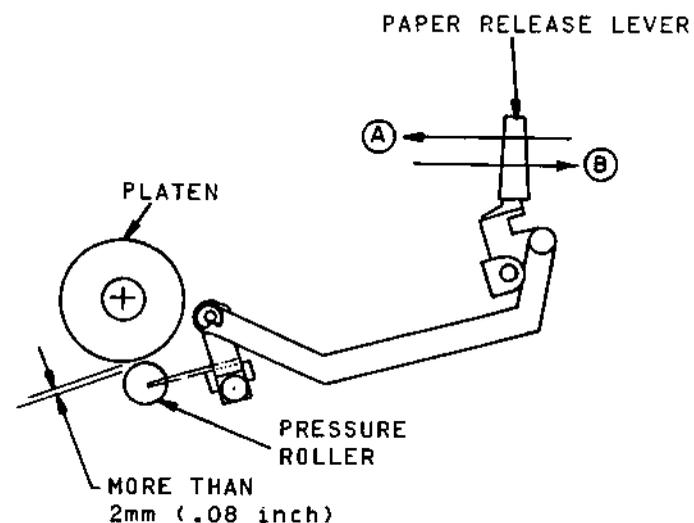

Figure 5-13 Pressure Roller Adjustment
- With the platen installed, pull the paper release lever toward arrow direction A (Figure 5-13) to release the pressure rollers from the platen.